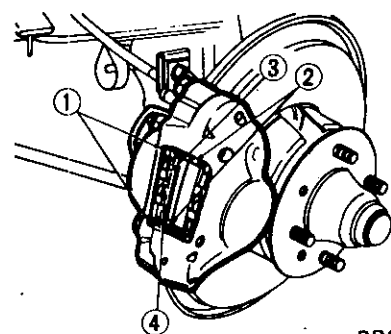

Fig. BR-14 Removing pad
2. Remove clip ①, retaining pin ②, and anti-squeal spring ③, and remove pad ④ together with the shim as shown in Figure BR-14.